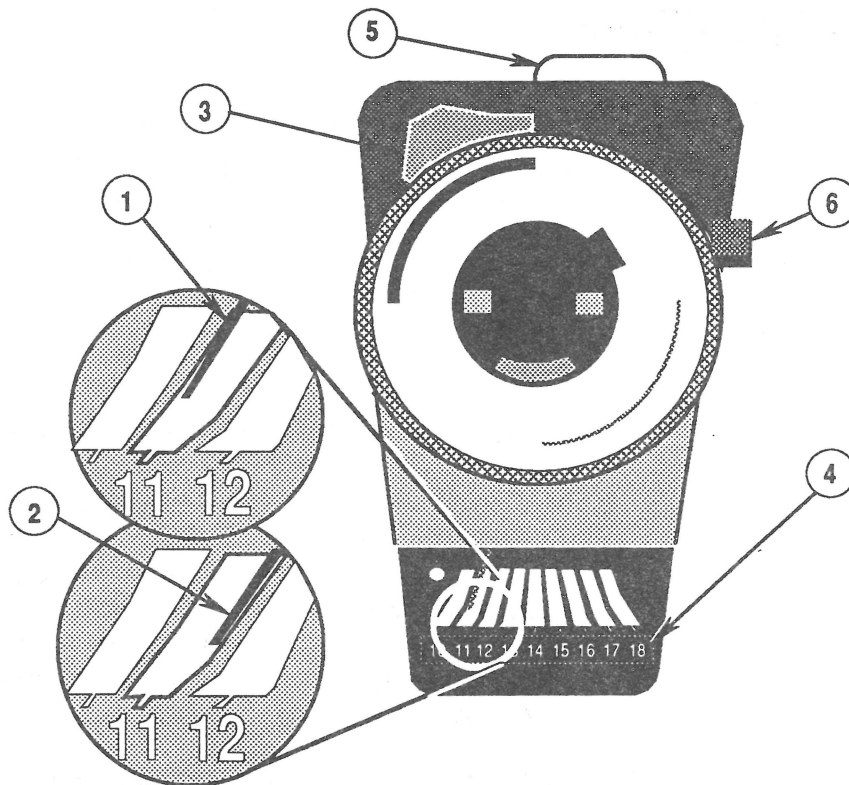

FIGURE 15
12. Make sure the BRIGHTNESS control is at the detent position, and measure screen luminance with the light meter. The light meter should read at the low end of the 11 scale (40 ft.-lamberts) (see Figure 15, #1).
13. Set the BRIGHTNESS control at maximum (full clockwise), and recheck screen luminance with the light meter. The light meter should not measure beyond the 11 scale (above 60 ft.-lamberts) (see Figure 15, #2).
2. Move the side switch (Figure 15, #3) up so that the lower scale (Figure 15, #4) reads 10 through 18.
3. Move the lens hood (Figure 15, #5) aside to uncover the lens of the meter. Place the lens against the screen exactly at screen center, press the "read" button (Figure 15, #6), and obtain the light meter reading on the lower scale (Figure 15, #4).